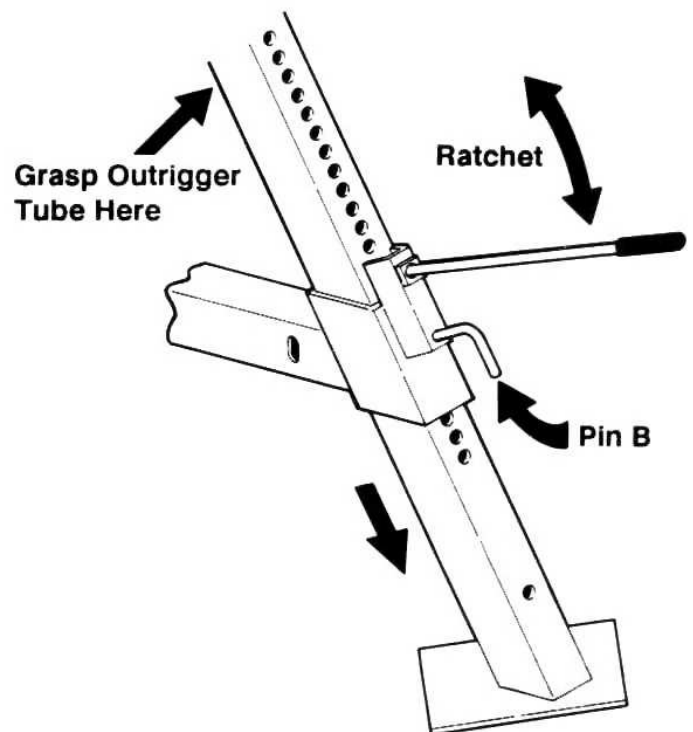

Figure 1-2
2. Grasp the top of the outrigger tube firmly. Disengage pin B and carefully slide the outrigger foot down. **CAUTION - WATCH YOUR FEET, OUTRIGGERS SLIDE DOWN RAPIDLY!** Refer to Figure 1-2. Extend all 4 outriggers and lower all 4 outrigger feet to solid footing before proceeding.
3. Insert the jacking bar, through the jack hole, into a hole in the outrigger tube. Disengage, and hold, pin B and pull or push up on the jacking bar to lower the outrigger. Release pin B to hold the outrigger in place. Refer to Figure 1-2.
Refer to Figure 1-2. Disengage pin B, lift up the horizontal outrigger until there are 8 holes showing at the bottom of the vertical leg. Check pins A and B on the rear outriggers to be sure that they are fully re-engaged.